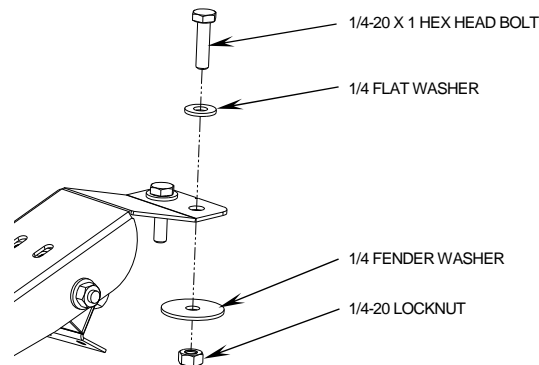

FIGURE 2
7. Generously apply silicone around drilled holes before securing the centre bracket with 1/4-20 hex head bolts, 1/4 washers, 1/4 fender washers and 1/4-20 locknuts. (Figure 2)
12. Generously apply silicone around drilled holes before loosely fastening the remaining brackets with 1/4-20 hex head bolts, 1/4 washers, 1/4 fender washers and 1/4-20 locknuts. (Figure 2)